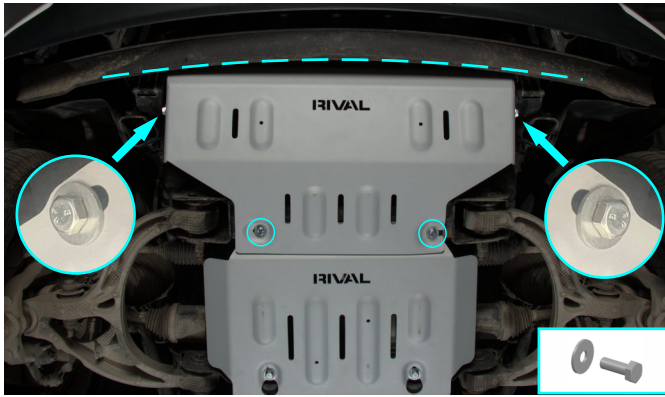

Fig. 7
7. Unscrew front bolts of engine skid plate (2333.1504.1.6). After that secure front part of radiator skid plate (item 1) using bolts M10x30 with flat washers M10 (items D, E) as shown in fig.7.